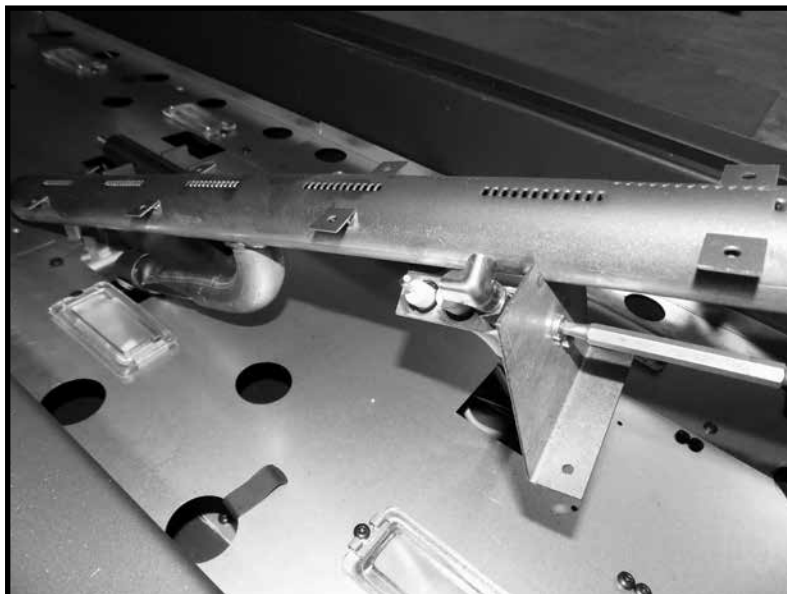

Figure 8: Attaching the pilot assembly to the burner leg.
9. From the REAR of the fireplace, position one of the two burners on an angle and attach the pilot assembly to the burner leg using two Robertson screws provided (Figure 8). Note that the pilot will be positioned on an angle.